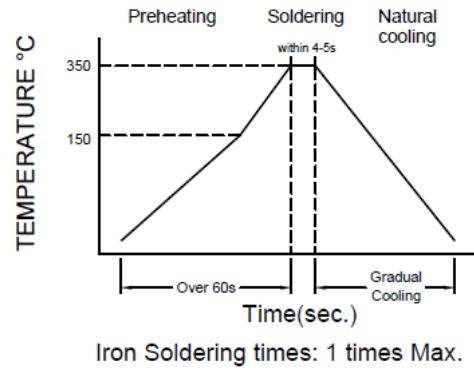

Fig.2
**8-1.2 Soldering Iron (Figure 2):**